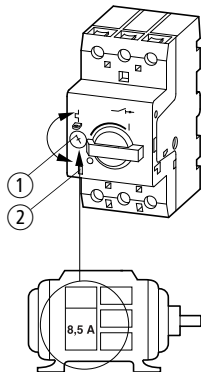

Figure 1: PKZM0-.../XTPR...BC1NL and PKZM0-...-T/XTPPT...BC1NL motor-protective circuit-breakers
The rated motor current is set on the PKZM0-.../XTPR...BC1NL and PKZM0-...-T/XTPT...BC1NL units by means of a current dial ① (→ Figure 1).
Proper functioning of the circuit-breaker can be verified by means of the testing feature ② (→ Figure 1, page 25).